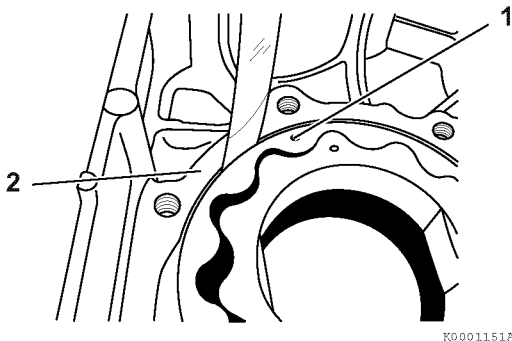

Figure 9-7
2. Determine the outside clearance of the outer rotor. Insert a feeler gauge between the outer rotor (Figure 9-7, (1)) and the gear case oil pump cavity (Figure 9-7, (2)).